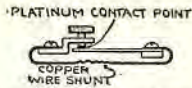

Fig. 16A. How to short-circuit vibrators on coils.
The master-vibrator coil can be connected with a "multiple" of coils, by screwing down the vibrators on all coils and short-circuiting them, by connecting as shown in Fig. 16A. Note that the coils are the regular double-wound, high-tension coils.
Fig. 16. A simplified illustration of a master vibrator coil on a four-cylinder engine, as an example. (W) secondary winding; (PW) primary winding; (P) primary wire; (VB) vibrator; (C) coils; (G) secondary ground wire; Fig. 16A, shows how the vibrator on the coils C1, C2, C3, and C4 are short-circuited.